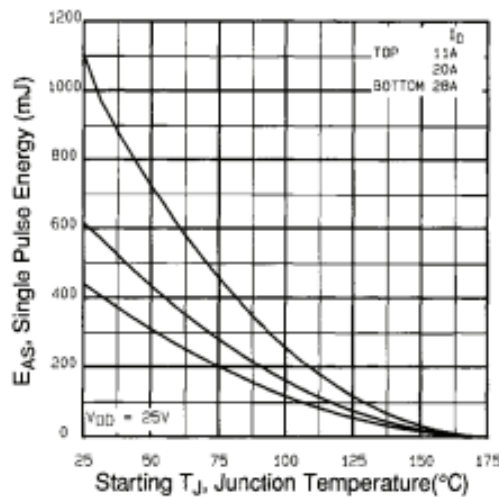

Fig. 12c - Maximum Avalanche Energy vs. Drain Current
- $V_{DS} = 25$ V, starting $T_J = 25$ °C, $L = 841$ μ H, $R_g = 25$ Ω , $I_{AS} = 28$ A (see fig. 12c).